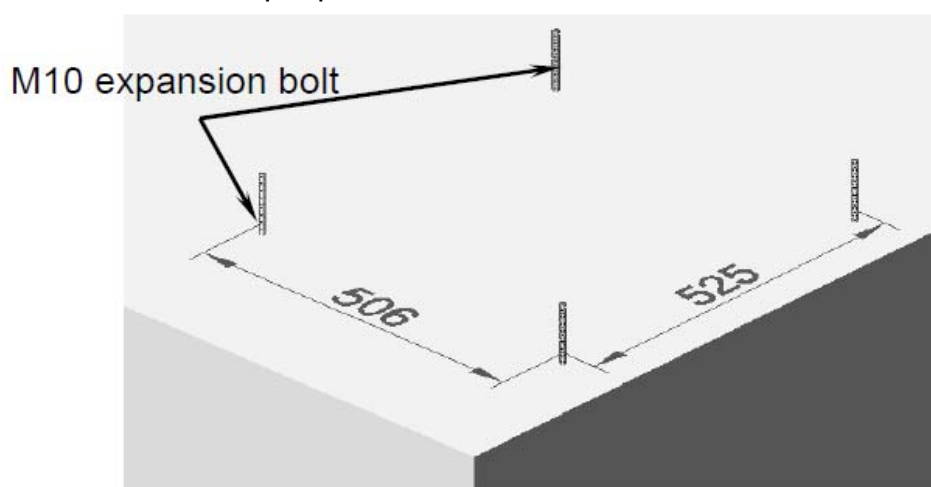
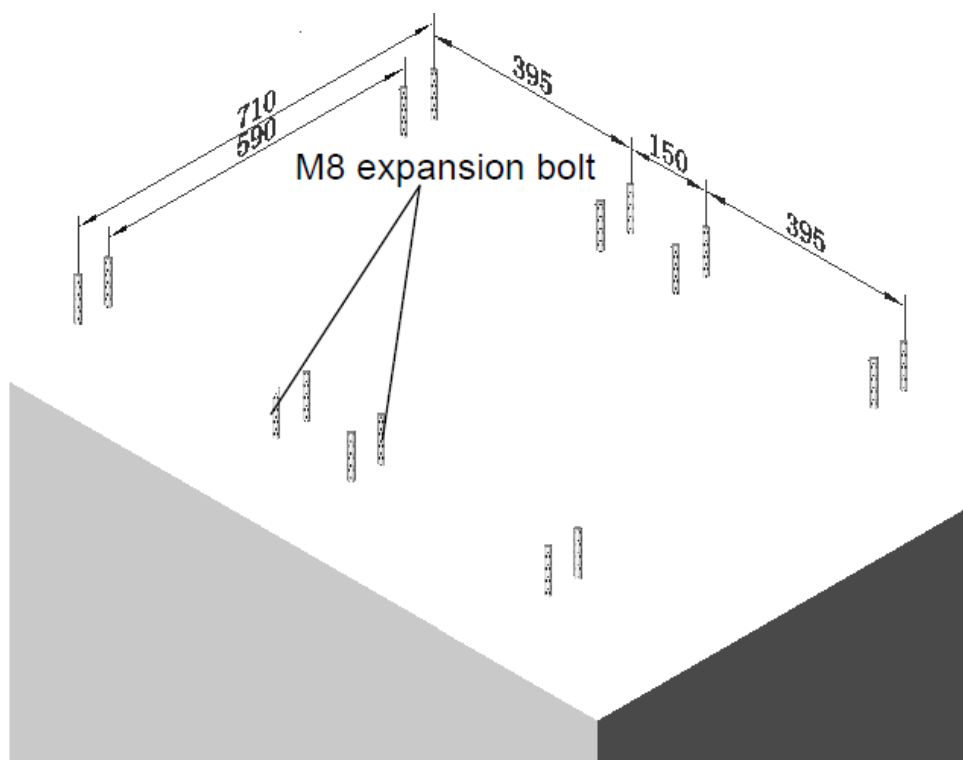

Figure 3-1 Installation of 10-60KVA products of this series
Figure 3-2 Installation of 80~160KVA products of this series
- 7) The floor must withstand the UPS's weight and size as shown in Figure 3-1, Figure 3-2 and Figure 3-3.